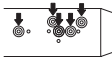
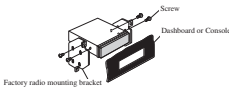

Fig. 8
Fig. 9
2. Fastening the unit to the factory radio mounting bracket. (Fig. 8) (Fig. 9)
Select a position where the screw holes of the bracket and the screw holes of the head unit become aligned (see Fig. 8), and tighten the screws at 2 places on each side. Use either trim screws (5 x 8 mm) or flush surface screws (5 x 9 mm), depending on the shape of the screw holes in the bracket.